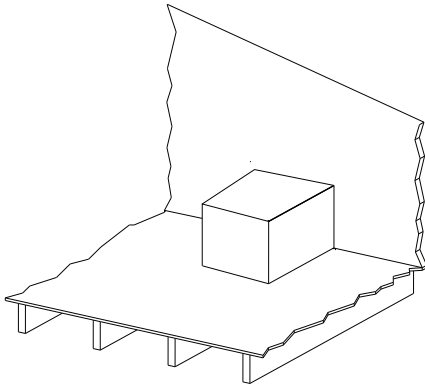

Fig. 1 – Upflow Stand
2. Place the Upflow Stand in the desired location and attach to the floor with wood screws. See Figure 1.